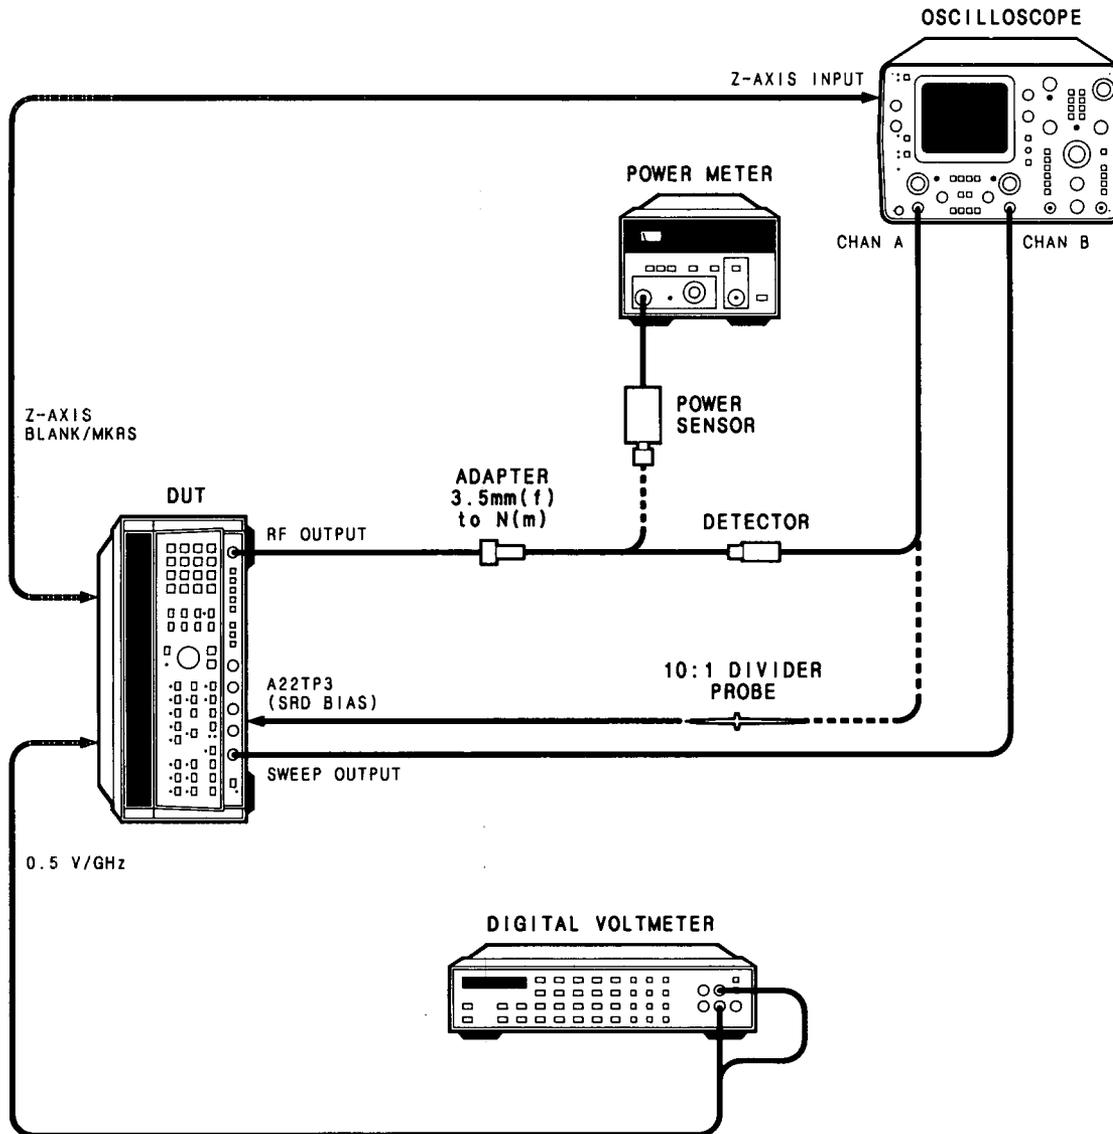
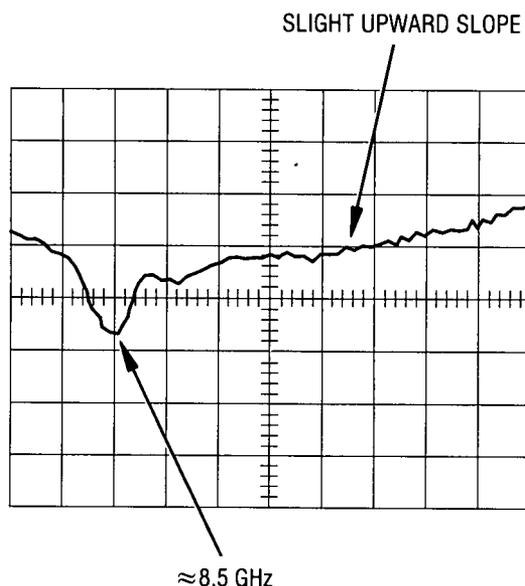

Figure 5-40. Unleveled RF Output Adjustments Setup
Figure 5-43. Oscilloscope Display of SRD Bias Waveform
1. Place the DUT in the test position and connect the oscilloscope and detector as shown in Figure 5-40. Connect the DVM to the DUT's rear panel 0.5 V/GHz output BNC. Switch the DUT's LINE switch ON and allow the equipment to warm up for one half hour.
15. Connect the oscilloscope and detector as shown in Figure 5-40. Set the oscilloscope to:
19. Repeat step 17. After this, disconnect the detector and connect the scope probe to A22TP3 (SRD BIAS) as shown in Figure 5-40. Adjust the scope's vertical sensitivity to view the waveform on TP3. If TP3 exhibits a slight upward slope, as shown in Figure 5-43, proceed to step 20. If TP3 exhibits a flat or downward slope, adjust 2A until a upward slope is displayed on TP3 (do not adjust 2A more than 1/8 of a turn). If adjusting 2A does not provide an upward slope on TP3, adjust 2B until a upward slope is displayed on TP3 (do not adjust 2B more than 1/8 of a turn). If neither of these adjustments provide an upward slope on TP3, repeat steps 15 through 19.